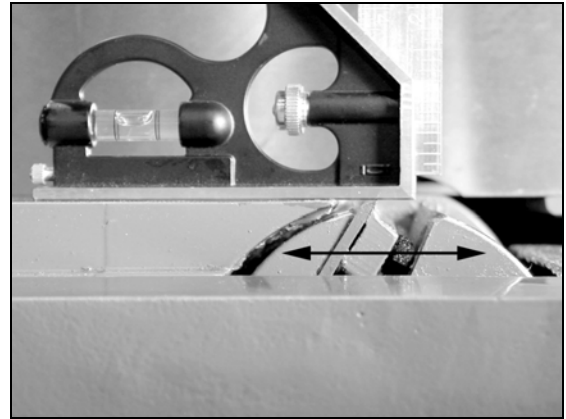
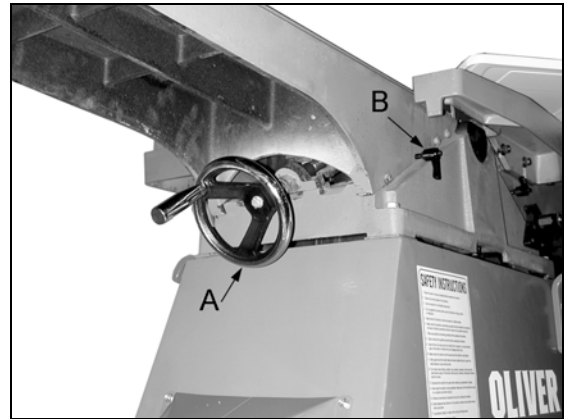
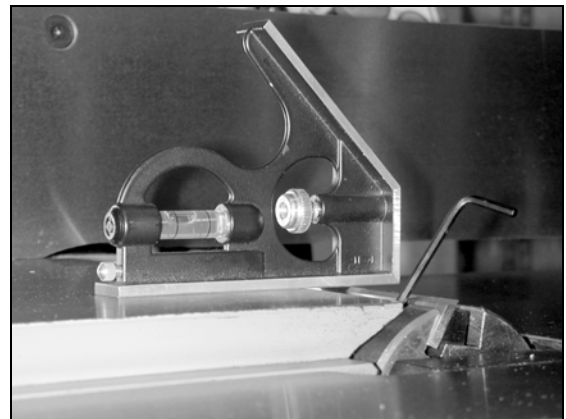

Figure 13
Figure 14
Figure 15
1. Once the knives are set it is now time to set the outfeed table. For proper operation the height of the outfeed table must be set to the highest point of the cutting circle. To do this, set a straight edge on the outfeed table as shown in Figure 13.
2. Carefully adjust the table height by turning the handwheel (A, Figure 14) while rocking the cutterhead back and forth as shown by the arrow in Figure 13. The table will be at it's correct height when the knife, at it's highest point of the cutting circle, just scrapes the bottom of the straight edge.
3. Once set, lock into place with the height lock knob (B, Figure 14).
1. With the knife in the slot, turn the jack screws using an allen key (Figure 15) so that the bevel plus an additional 1/32" of knife is protruding from the cutterhead. Note that this 1/32" need not be exact.
4. Next set a straight edge on the outfeed table as shown in Figure 15 and adjust the outfeed table height with the handwheel (A, Figure 14) so that it is level with the knives